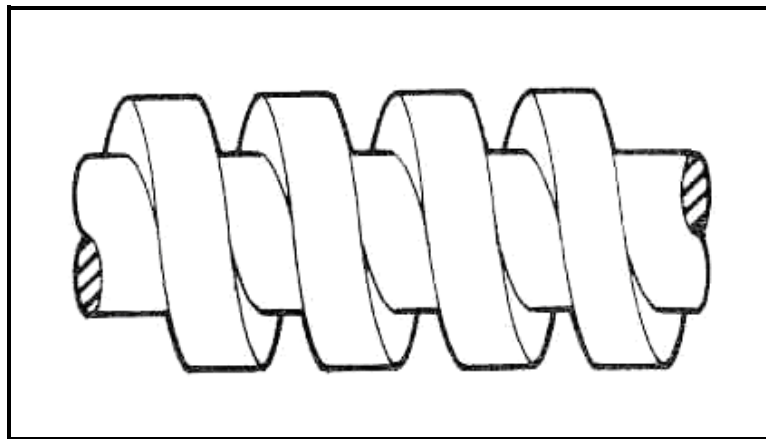

FIGURE 1.2
- D Linear (1)
1.17 Identify the type of screw thread in FIGURE 1.2 below: